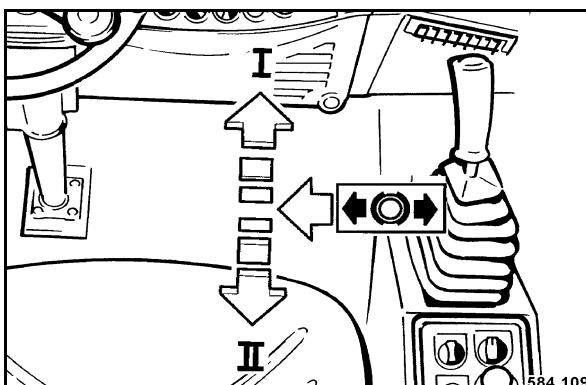

Fig. 96
- Shift the travel lever (Fig. 96) fully to position „I“.